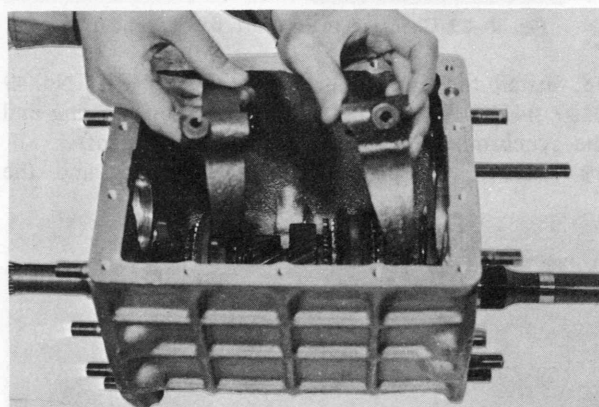

Fig. 7-21 Installing shift forks
15. Position the first-and-second shift fork and third-and-fourth shift fork in the groove of the clutch hub and sleeve assembly, as shown in Fig. 7-21.